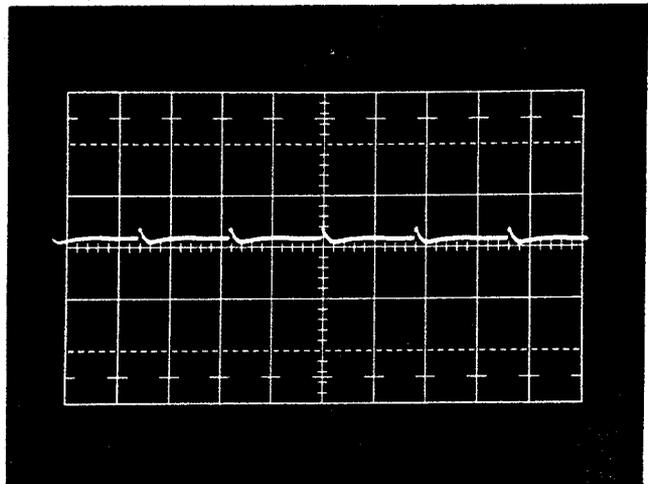

Fig. 7-8. Typical display of Channel Internal Trigger noise; test oscilloscope sweep rate, 1  $\mu$ s/cm; vertical deflection factor, 500 millivolts/cm.
c. Adjust the test oscilloscope for a stable display. The display should be similar to Fig. 7-8, with an amplitude not exceeding 300 millivolts.